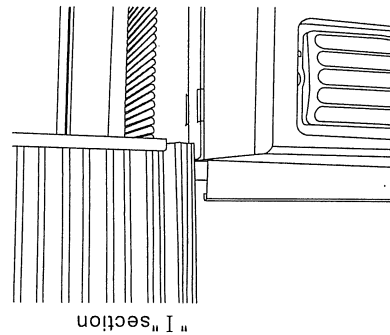

Fig. 2
B. Slide the free end "I" section of the panel directly into the cabinet as shown in Fig. 2. Slide the panel down. Be sure to leave enough space to slip the top and bottom of the frame into the rails on the cabinet.